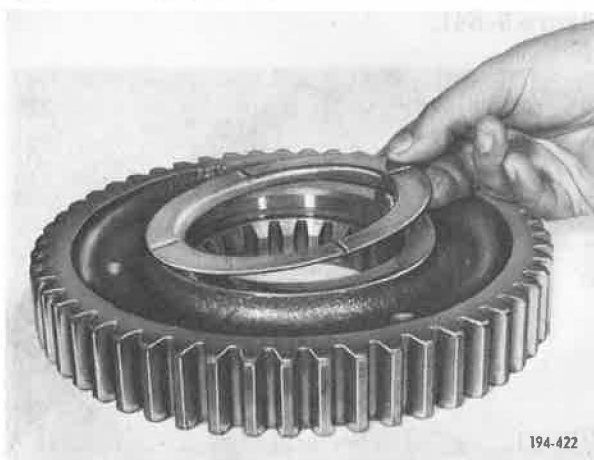

Figure 5-634. Installing Gear Thrust Washer on Third Speed Gear
8. Apply a light coat of grease to front face of third speed gear hub, then place thrust washer on front face of gear hub. See Figure 5-634.